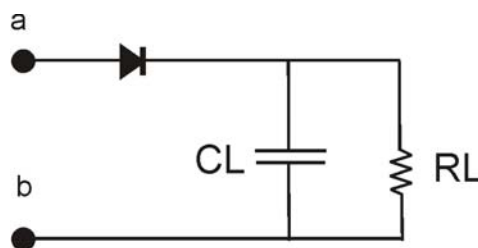

Fig. 2. Basic schematic of the envelope detector.
With or without external DC bias, Schottky diode detector circuits can be used to create low cost RF and microwave receivers with a sensitivity from -55 dBm to -57 dBm (see [2]). These circuits can have a variety of forms but in the simplest case they are equivalent to the envelope detector circuit shown in Fig. 2.
- a. Modifying the MATLAB script of task 1 determine and plot the input impedance of the entire envelope detector (input impedance between terminals  $a$  and  $b$  in Fig. 2) at 920 MHz including both resistance and reactance. The input impedance is plotted as a function of the bias current  $I_B$  in the range 0-1000  $\mu\text{A}$ .